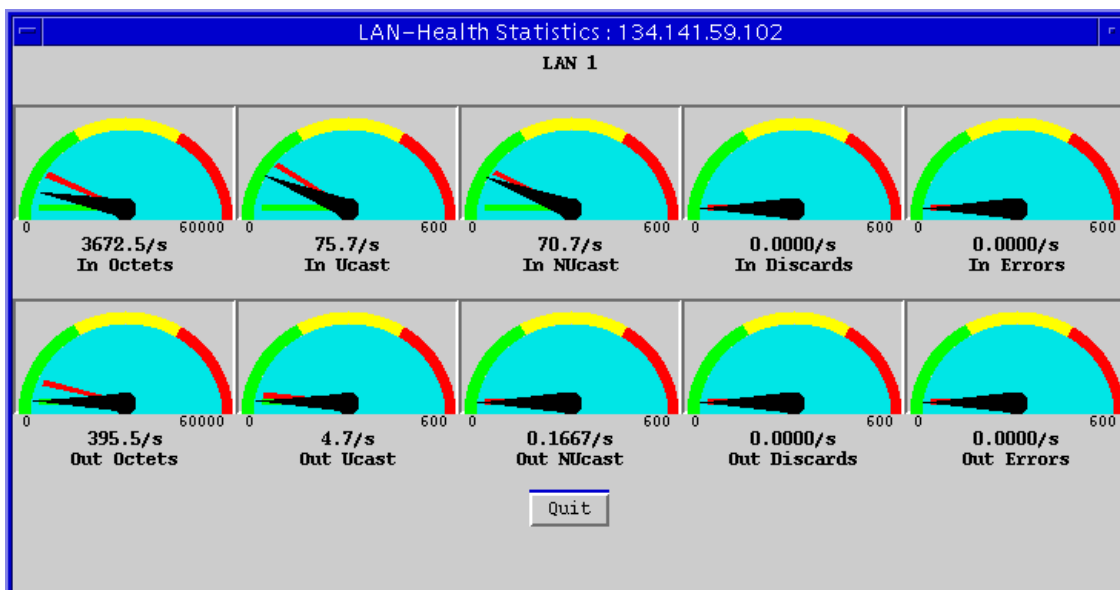

Figure 2-14. The LAN Health Statistics Window
2. Drag down to **Health**, and release. The LAN Health Statistics window, Figure 2-14, will appear.